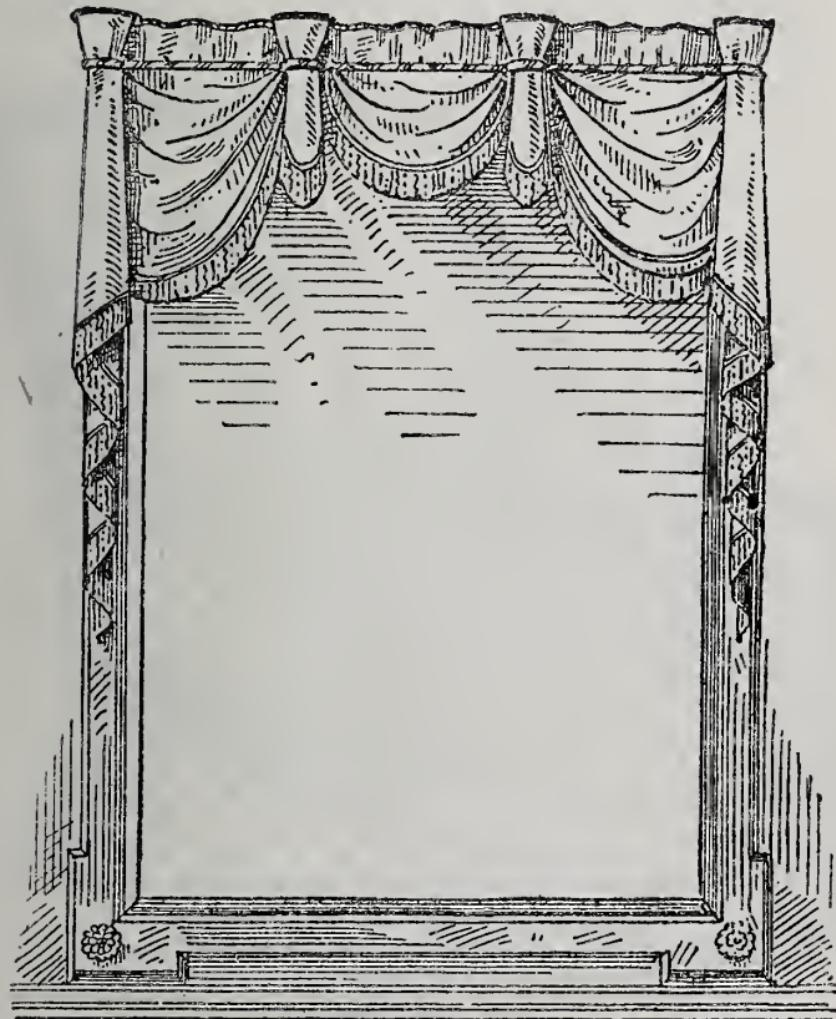

FIG. 43.
**Mirror Drapery.**—To carry out the design shown in Fig. 43, the festoons are cut separate from the side-wings and heading-piece; the two center-pieces are also separate (covered pieces of buckram). The wings and tails are cut